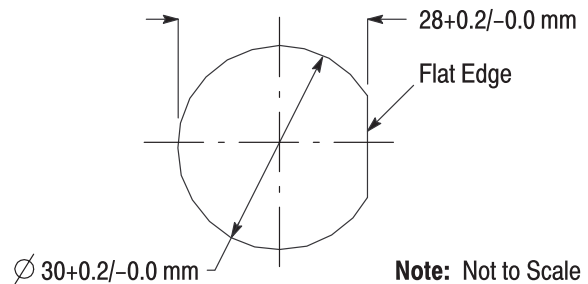

Figure 17
1. Cut the panel using the dimensions provided in Figure 17.